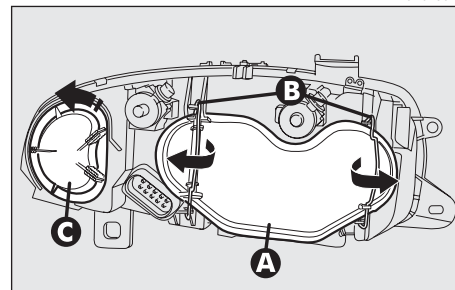

fig. 25b
- (A) Fog lights.
- (B) Dipped beam headlights
- (C) Sidelights.
- (D) Main beam headlights
To change the bulbs of the sidelights, low beams and main beams it is necessary to remove the cover (A-fig. 25b) releasing the catches (B).